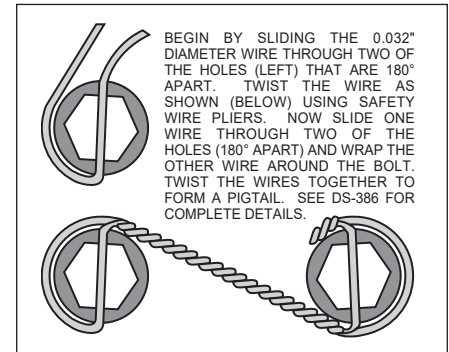

Figure 3. Safety Wire Diagram
- The caliper mounting bracket assembly (1) should be installed first with clean, dry threads on the mounting bolts. The bracket must tighten squarely against the inboard side of the caliper mount bosses on the spindle body. Inspect for interference from casting irregularities, machining ridges, burrs, etc. Slide bolt (2) through the hole in the spindle body where the OEM bolt was removed. Use one thin shim (4) between the bracket and spindle during initial trial fitting. Later, after the caliper, pad and rotor alignment have been checked, and any necessary shims have been put in place, the mount bolts (2) should be coated with red *Loctite*® 271 and torqued to 60 ft-lb.
- With the larger I.D. side of the rotor (5) facing away from the hat (6), bolt rotor (5) to hat (6) through the backside of the rotor using washers (7) and bolts (8). Using an alternating sequence, apply red *Loctite*® 271 to the threads and torque bolts to 155 in-lb. For an added measure of security, the bolts may be safety wired using standard 0.032 inch diameter stainless steel safety wire as shown in Figure 3. Please refer to Wilwood's data sheet DS-386 (available at www.wilwood.com/Pdf/DataSheets/ds386.pdf) for complete safety wire installation instructions. Slide the rotor/hat assembly onto the spindle. Install a couple of lug nuts (hand tighten) to keep the rotor/hat assembly in place while continuing with the installation.